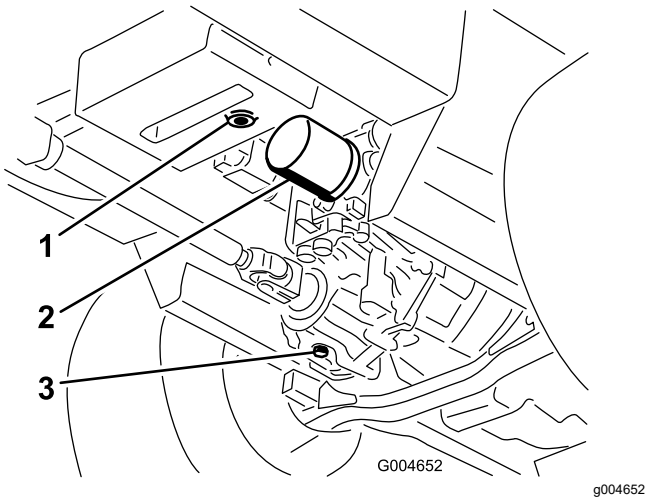

Figure 59
3. Place a large pan under the hydraulic reservoir and transmission case and remove the plugs, draining all of the hydraulic fluid (Figure 59).
4. Clean the area around the hydraulic fluid filter and remove the filter (Figure 59).